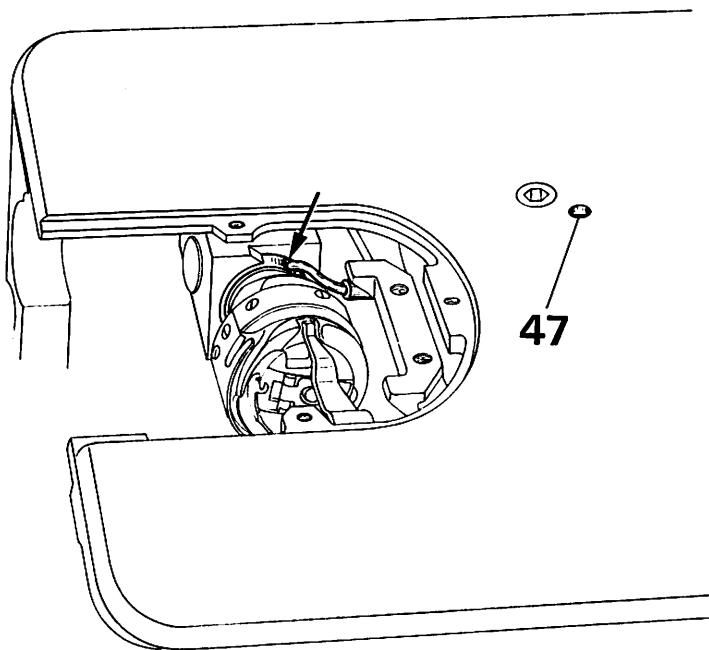

Fig. 24
22. Inserting the Oil Tube In the Oil Retainer Ring (Fig. 24)
- 22.2 Insert the small bent copper tube in the hole of the oil retainer ring (see arrow in Fig. 24).